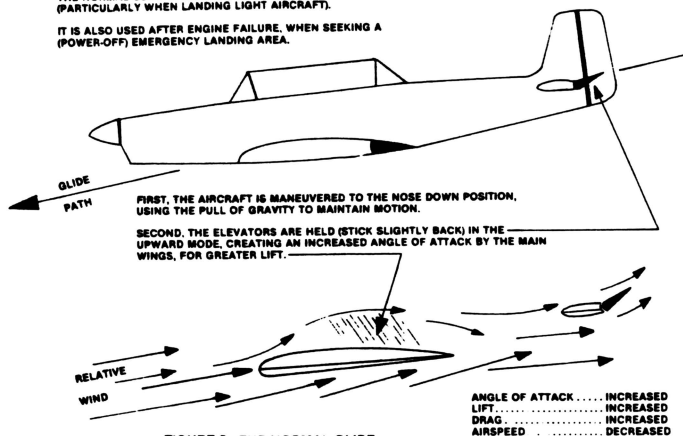

FIGURE 5. THE NORMAL GLIDE.
- (1) Flying speed is attained at 65 M.P.H. If you let the airspeed fall below 65 M.P.H. (except during the final phase of landings) a stall or spin will occur, finally resulting in a dive. The compass course will alter quite rapidly in this process.
- (2) If you attempt to land at too high an airspeed, the aircraft will bounce. The airspeed is basically controlled by the throttle settings, but is also affected by the angle of attack of the wings. (Refer to Figures 5 through to 9).
- (3) When the aircraft nears either of the landing areas, the map of the entire area will be replaced (on the display screen), with a map showing only the landing strip and your aircraft.
- (d) Upon entering the Goldtown area, change course and commence to execute a slow turn, to align your aircraft with the runway. Begin adjusting your rate-of-descent (refer to Figures 5 and 6).
When the aircraft is descending (Figures 5 and 6) you will note that the relative wind is attacking the leading edge of the wing from below. These diagrams illustrate that the angle of attack varies, even when the nose of the aircraft is in ROUGHLY level position, as long as the climb, or glide of the aircraft varies. Referring to Figure 7 shows that you can stall even when the aircraft is in moderately level position, due to the steep descent angle.